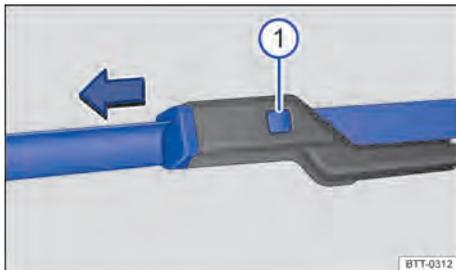

Fig. 159 On the windscreen: Changing the windscreen wiper blades.
- ① Release button.
3. Press and hold the release button and simultaneously pull off the wiper blade in the direction of the arrow → Fig. 159 ①.